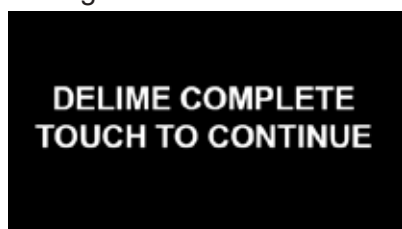

Fig. 62 - DELIME COMPLETE
17. DELIME COMPLETE is displayed. Touch the display screen, Fig. 62.